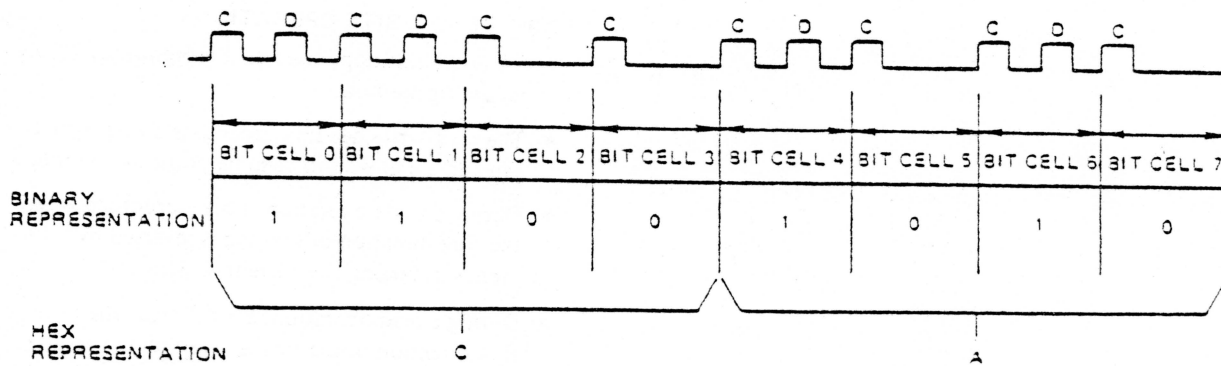

FIGURE 18. BIT CELL
7.1 The SA 400 drive uses the double-frequency (2F) longitudinal non return to zero (NRZI) method of recording. Double frequency is the term given to the recording system that inserts a clock bit at the beginning of each bit cell time thereby doubling the frequency of recorded bits. This clock bit, as well as the data bit, are provided by the using system. See Figure 18.